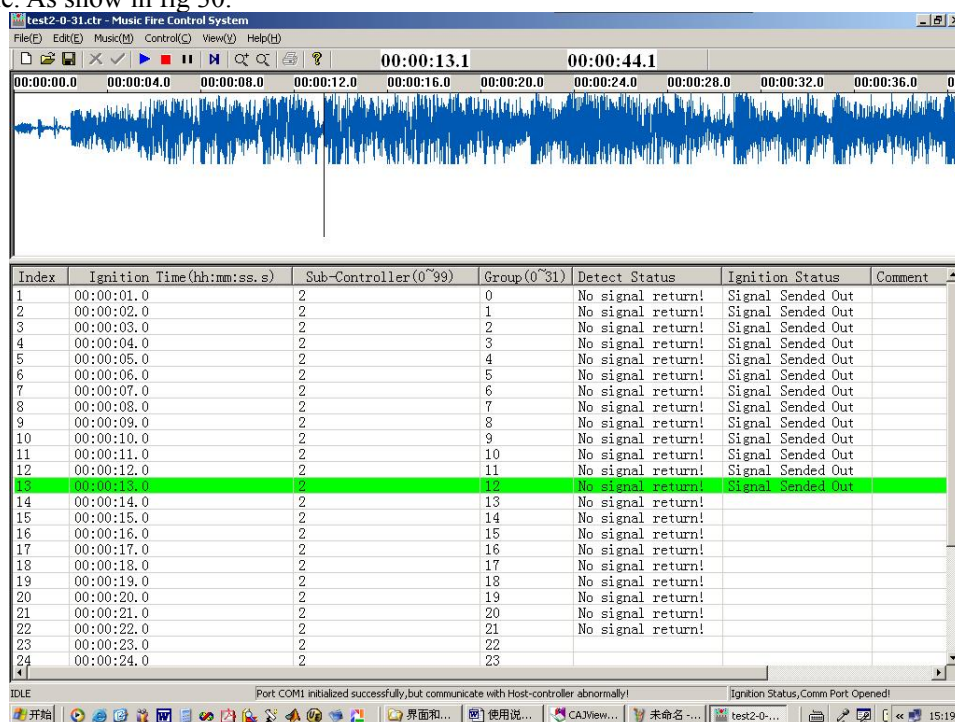

fig 30 Fire
10、Fire. Click the menu “Control”→”Fire”, the control system will enter the fire status. “Fire status, the Comm port is iopened” will show in the status bar in the right-bottom corner Click the ”Play” button in the toolbar, the Fire task will be performed so. The status of control points will be returned and show in the report table. As show in fig 30.